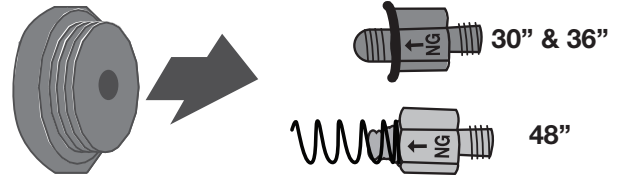

Figure 10
- 4 Remove retainer pin by pulling it out (see Figure 10).